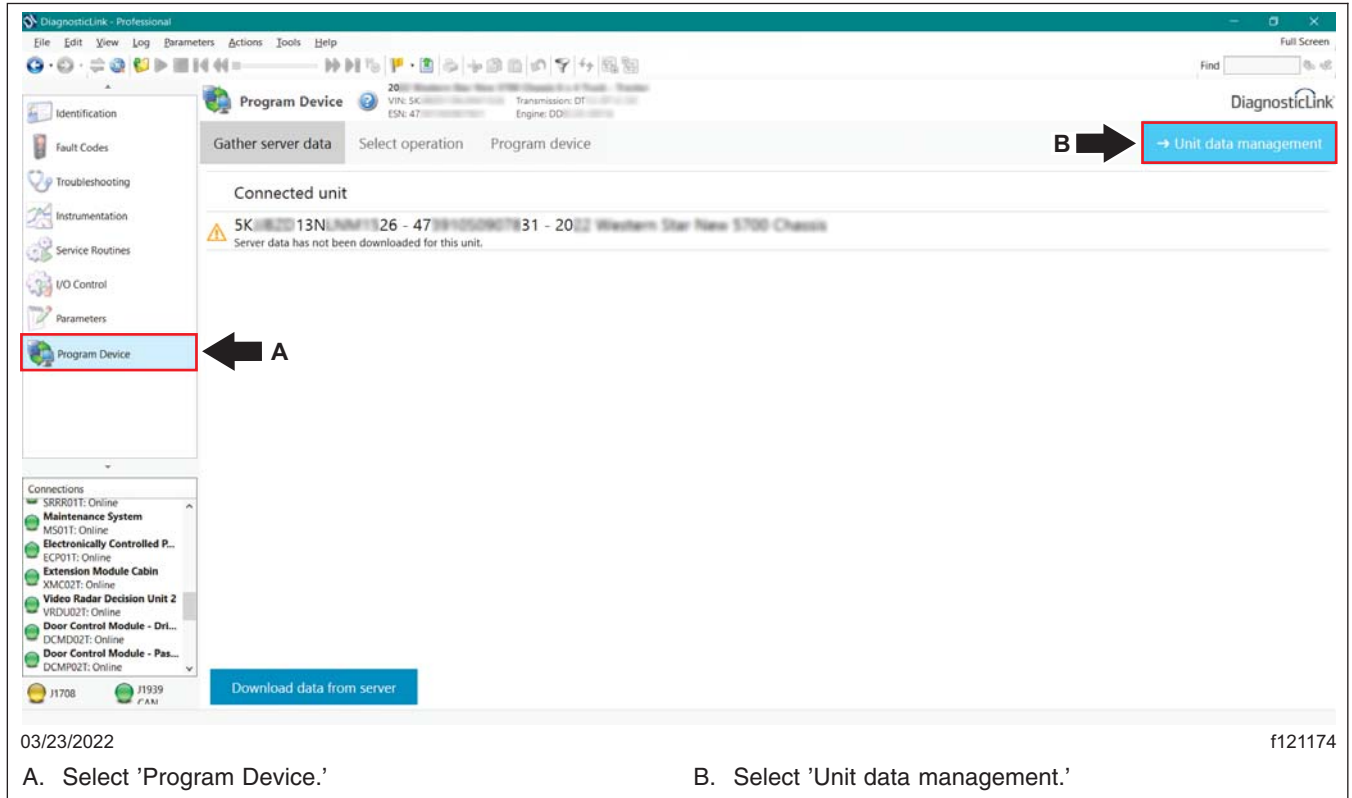

Fig. 6, Selecting Unit Data Management
10. Go to the 'Program Device' tab and select 'Unit data management' in the upper right corner. See Fig. 6.